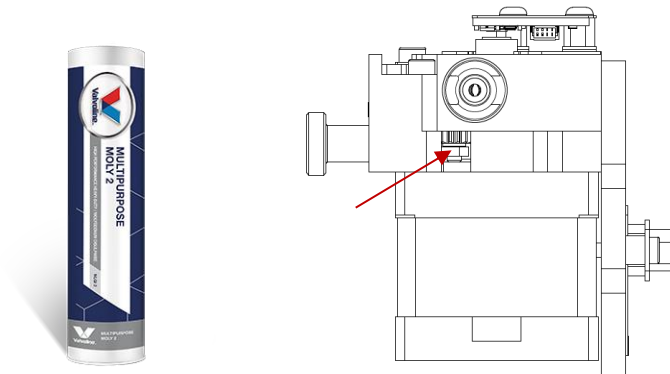

Fig. 108 Lithium molybdenum grease and where to apply it
13. After cleaning the extruder with compressed air, lubricate the extruder gear. For lubrication, you should get lithium-molybdenum grease, e. g. Valvoline Multipurpose Moly 2 or another grease with similar characteristics (fig. 95), and a toothpick. Apply a small amount of lithium molybdenum grease equivalent by volume to the head of the pin on a toothpick and spread it over the gearwheel, applying it through the hole marked in the diagram (Figure 108).